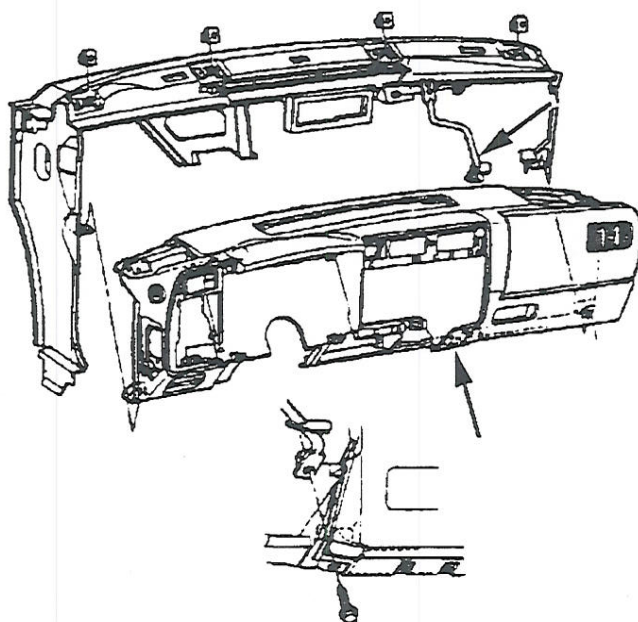

Fig. 26 Instrument panel lower support removal. 1997 S & T Series & Bravada
13. Remove instrument panel lower support bolts as illustrated in Fig. 26.